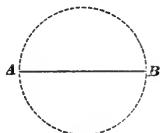

FIG. 39.
**68.** The **diameter** of a circle is a straight line passing through the center and terminated at both ends by the circumference; thus,  $AB$  (Fig. 39) is a diameter of the circle.